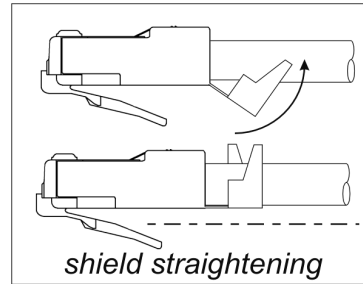

Fig.3.
- IMPORTANT: Straighten the plug-cable assembly according to Fig.3, as it may be bent during the wire inserting.**